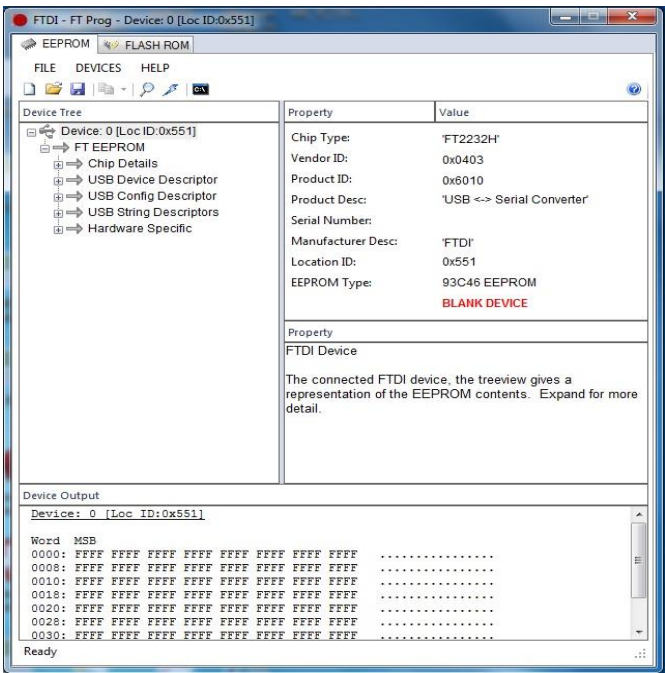

Figure 11: Scan Device
4. Select Scan and Parse button,  Blank device will be displayed as shown in Figure 11,